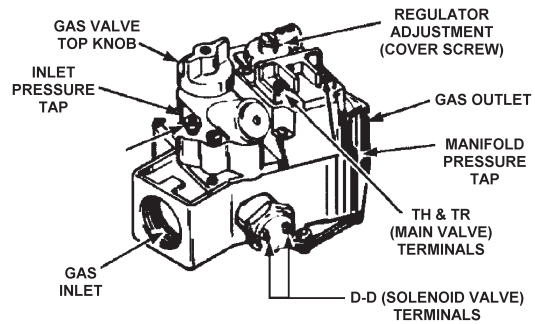

FIGURE 32.
Figure 32 shows the combination gas control valves used on these heaters.
2. Install manometers for gas inlet pressure, manifold pressure, and pilot gas pressure, see Figure 32 for the pressure ports location).